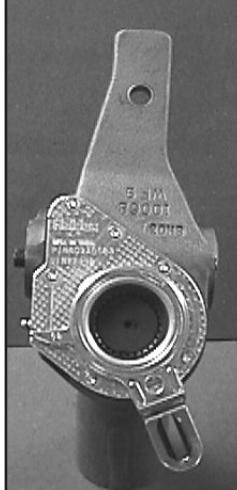

Figure 1. AA1
Two versions of brake adjusters are available from Haldex. The easiest way to identify each is by the shape of the cover plate assembly, as shown below in Figures 1 and 2.
STEP 6B. With the AA1 Model Brake Adjuster (Figure 1), rotate the control arm away from adjustment hex, toward the air chamber until it comes to an internal stop. The "Installation Indicator" must fall within the slotted area with the brake fully released. The view of the indicator varies from side to side. Haldex AA1 Trailer Adjusters are unhandled and are used on both axle sides.